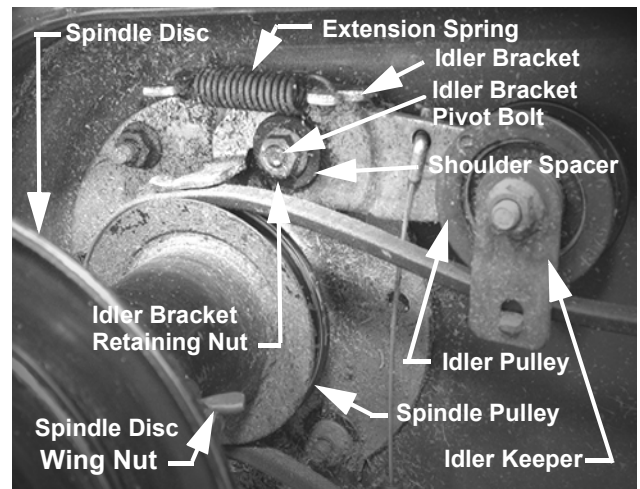

Figure 2
**2001 model year units have an extension spring located along side the Idler Bracket bolt (See Page 1, Figure 2)**
4. Refer to Figure 2. Loosen (do not remove) the two (2) wing nuts for the Spindle Disc and slide the Spindle Disc towards the Spindle Cap.
### 6. Belt Removal Procedure: (Refer To Figures 2 and 3)
- 7. Refer to Figure 2. Slide Spindle Disc down next to Spindle Cap.
**5. Belt Removal Procedure: (Refer To Figures 2 and 3)**